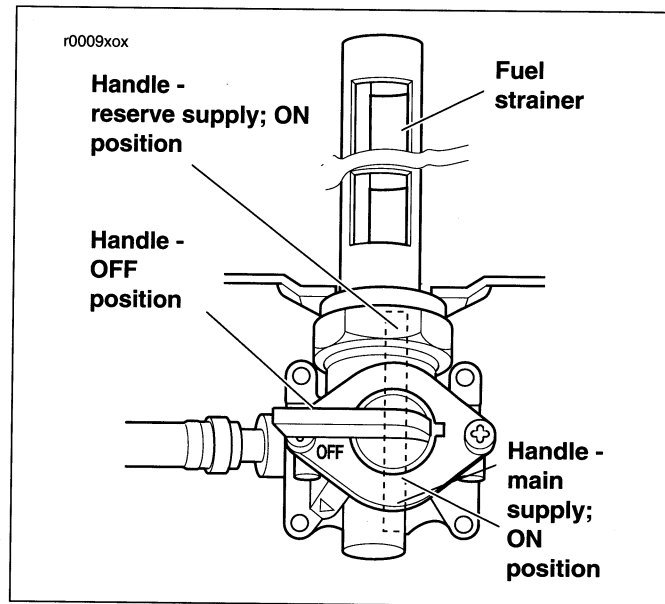

Figure 13. Fuel Supply Valve
- See Figure 13. Turn the handle down horizontally to turn OFF main fuel supply.
- See Figure 13. Turn the handle down vertically to turn ON main fuel supply.